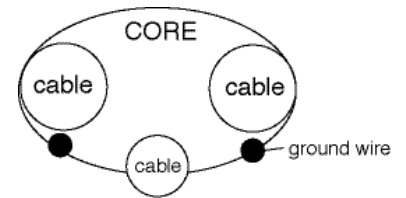

Figure 2
5. Arrange cables in a triangle with the smallest cable in front. See Figure 2.